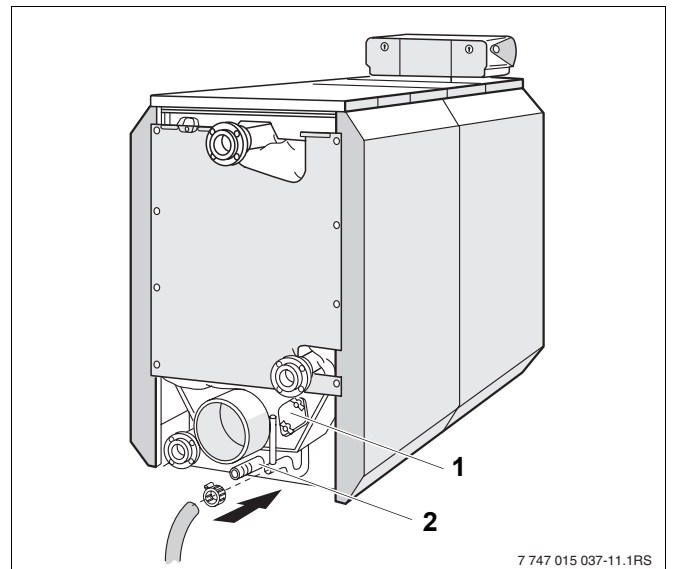

Fig. 23 Installing neutralizer unit
- Attach drain hose to condensate outlet (trap) (Fig. 23, **Item 2**) using hose clamp.
The condensate outlet (Fig. 23, page 23) must not be allowed to clog up when cleaning the boiler.
- Inspect and, if required, clean the combustion chamber and condensate drain via the cleaning access port (Fig. 23, page 23).
6	Unscrew neutralizer drain hose (condensate outlet) (Fig. 23, page 23)
9	Flush out condensate outlet (trap) (Fig. 23, page 23)